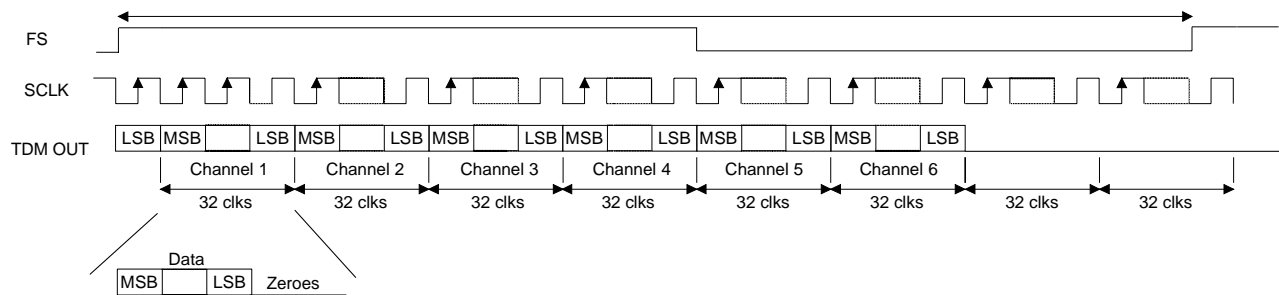

Figure 12. TDM Format
In TDM Mode, all six channels of audio data are serially clocked out during a single Frame Sync (FS) cycle, as shown in Figure 12. The rising edge of FS signifies the start of a new TDM frame cycle. Each channel slot occupies 32 SCLK cycles, with the data left justified and with MSB first. TDM output data should be latched on the rising edge of SCLK within time specified under ‘Serial Audio Interface - TDM Timing’ section on page 16. The TDM data output port resides on the SDOOUT1 pin. The TDM output pin is complimentary TDM data. All SDOOUT pins will remain active during TDM Mode. Refer to Section 4.11 ‘Optimizing Performance in TDM Mode’ on page 29 for critical system design information.